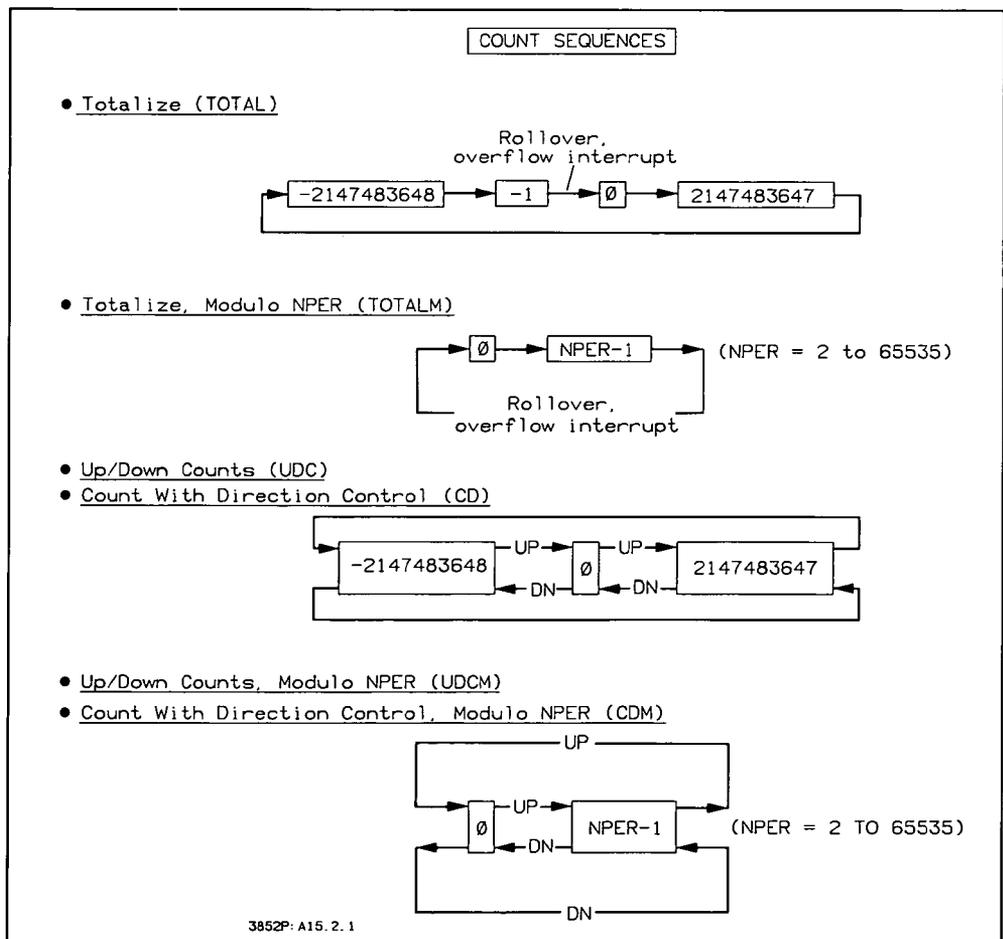
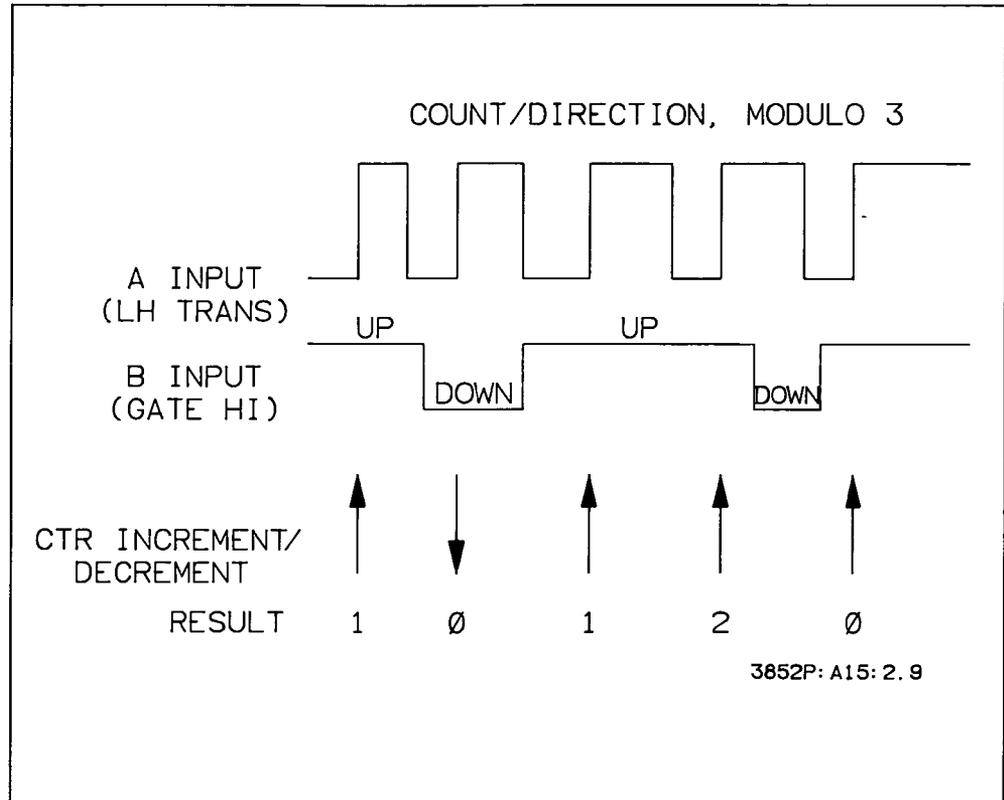
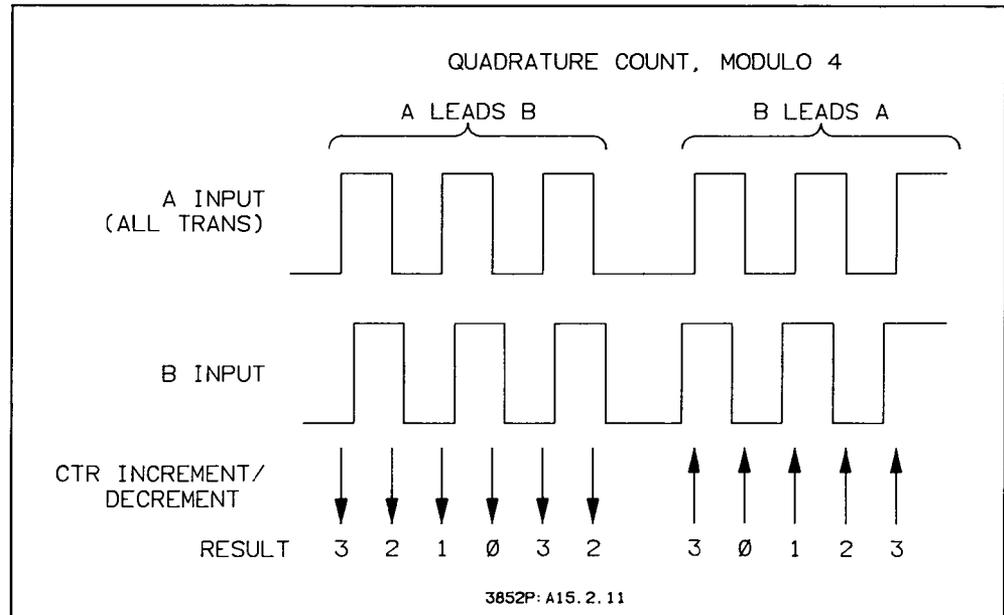

Figure 2-1. Counting Sequences
Figure 2-9. Example: Count/Direction, Modulo NPER (CDM)
Figure 2-11. Example: Quadrature Count, Modulo NPER (CDM)
As noted, the counter has two types of functions: counting and measuring. The counting functions (Totalize Counts, Up/Down Counts, and Count With Direction Control) continuously repeat the count sequence, while the measurement functions perform a one-time measurement. Figure 2-1 summarizes the count sequence for the counting functions.
The count sequence starts at 0. For up counts, the count sequence is from 0 to NPER-1 and back to 0. For down counts, the count sequence is from 0 to NPER-1 to 0 and back up to NPER-1 (see Figure 2-1). Measurement accuracy is ± 1 count + #reversals/2. Figure 2-9 shows an example sequence with NPER 3 in which LH transitions of the A input are up counts when the B input is high and down counts when the B input is low (B input level is set for HI).
Quadrature Count, Modulo NPER (CDM) is similar to Quadrature Count (CD) except that the count sequence is from 0 to NPER-1 (NPER = 2 to 65535) and back to 0 (see Figure 2-1). Figure 2-11 shows an example of Quadrature Count, Modulo NPER with NPER 4.